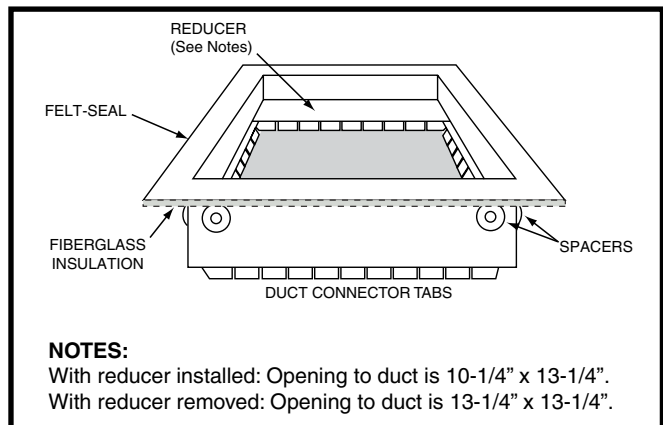

Figure 8. Duct Connector
- NOTE:** The furnace may be installed on combustible flooring when installed on a duct connector (Figure 8). This factory supplied accessory must be installed in the floor cavity and attached to the supply air duct before the downflow furnace is installed.